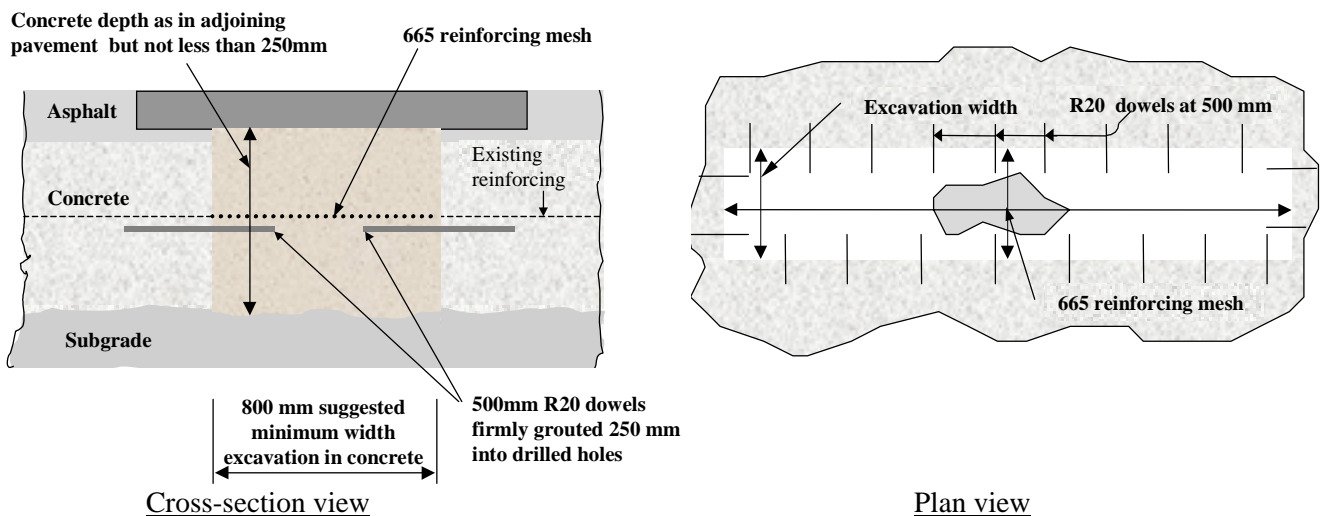

Figure 8 - Reinstatement of Concrete in carriageways
- The cut faces to be drilled and 500mm R20 dowels, or equivalent, grouted in as shown in figure 8